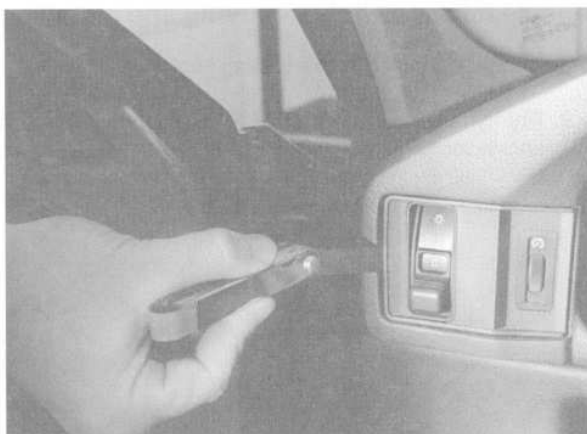

Fig. 6. Feeler gauge being used to release switch frame locking tab.
1. Push switch to right and insert a thin strip of metal (1.0 mm feeler gauge) to disengage switch frame locking tab. See Fig. 6.